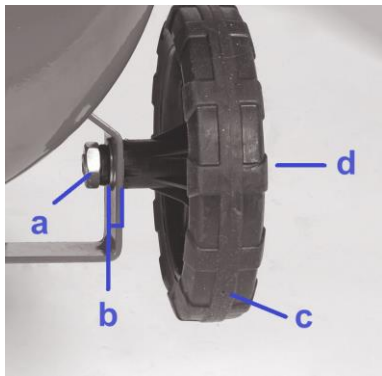

Fig. 2
- Fit the main wheel as shown in Fig. 2.